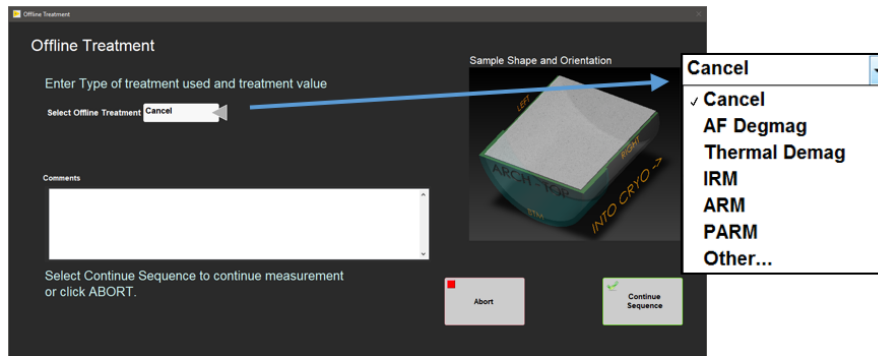

Figure 14- Offline Treatment Window
- **Off-line Treatment** will place an “off-line treatment” into the sequence list. Accept the sequence. A dialog box will be triggered (**Figure 14**) during the *measurement process* prompting the user to perform an offline treatment. The user may enter the type of offline treatment and comments regarding the treatment. The types of treatments available are shown in Figure 14. Click **Continue Sequence** to continue with the measurement and **Abort** to end the sequence.